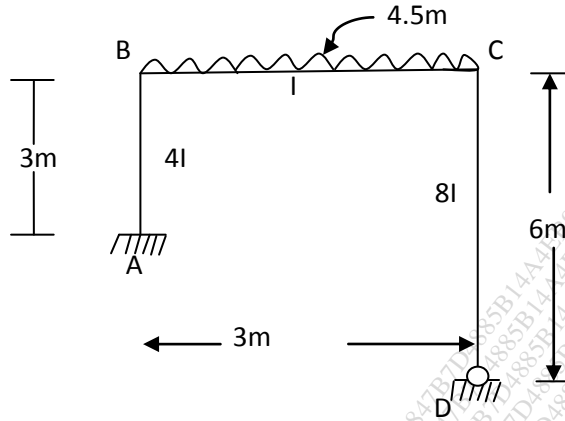

Fig.5
Q.7 Analyze the frame shown in fig.5 by moment distribution method and Draw BMD. 15